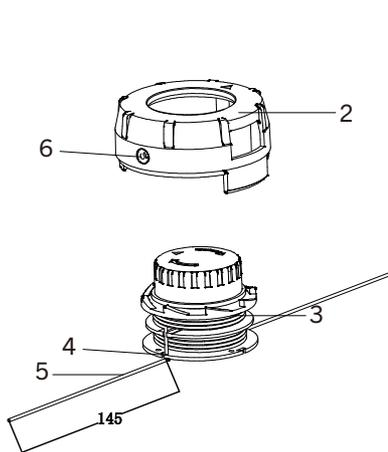

Fig. 13
2. Pull the loose end of the trimmer line out of the retaining slot (4) in the spool (Fig. 13).
4. Thread the loose end of the trimmer line (5) through the holes (6) in the spool housing (Fig. 13).
- Once the replacement spool is fully inserted into the spool housing, replace the spool cap (2)(Fig. 13) by inserting the locking buttons (1) into the spool housing (Fig. 14).
- Press the spool cap fully into the spool housing until the locking buttons "click" into the matching holes (7) in the spool housing.